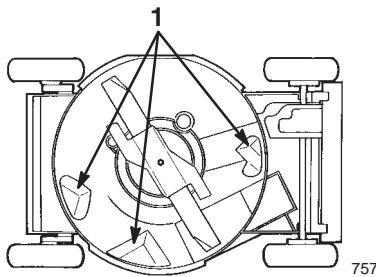

Figure 15
To ensure the best performance, keep the underside of the housing clean. Be especially careful to keep the kickers free of debris (Fig. 15).
3. Tip the lawn mower onto its **right** side (air cleaner up) (Fig. 15).